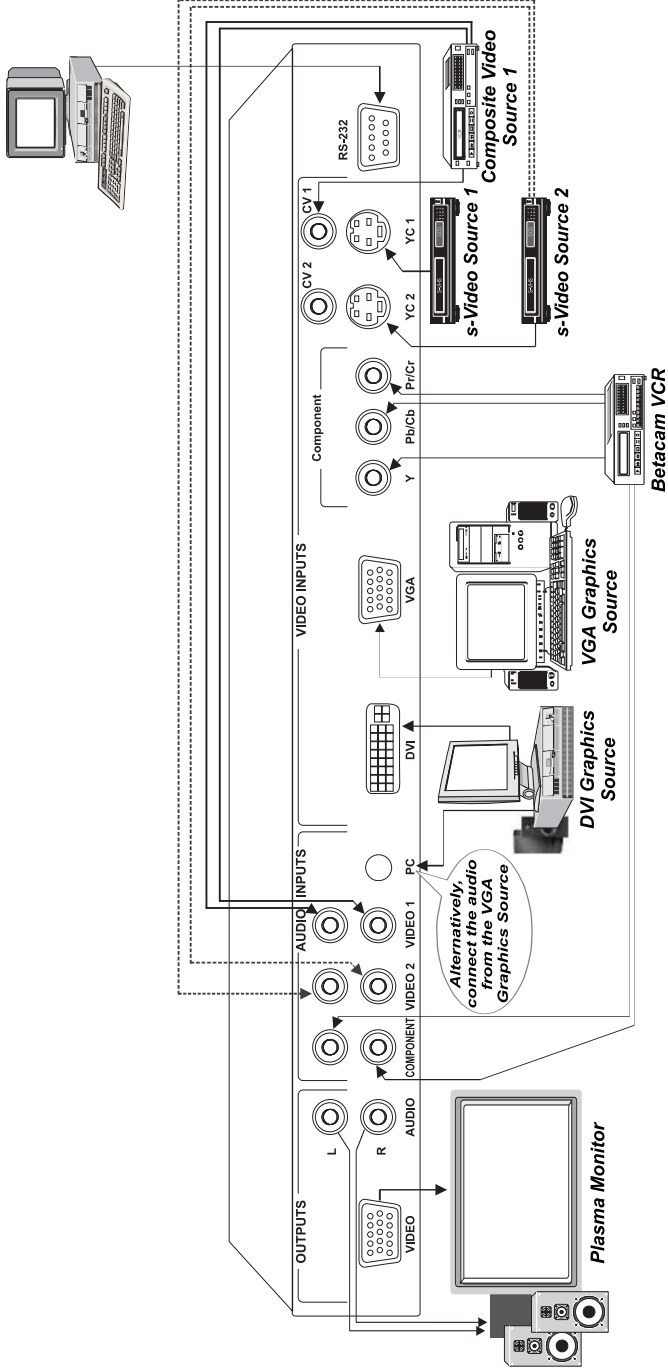

Figure 3: Connecting the YP-720DS / VP-723DS Rear Panel
To connect the **VP-720DS** or **VP-723DS**, connect the following² to the rear panel, as the example in Figure 3 illustrates:
- A component video⁴ source, for example, a Betacam VCR (as illustrated in Figure 3), to the 3 RCA connectors, Y, P_b/C_b, and P_r/C_r⁵
2. Connect the stereo audio sources, as illustrated in Figure 3. In particular:
3 Connection to CV 2 is not shown in the example in Figure 3
5 Alternatively, you can connect an RGB signal (not shown in Figure 3), as follows: RED to the “Y” connector, GREEN to the “Pb/Cb” connector, and BLUE to the “Pr/Cr” connector
6 Alternatively, you can connect a YUV signal to the HD15 connector (not shown in Figure 3), by connecting the “Y” connector to PIN 1, the “Pb/Cb” connector to PIN 2, and the “Pr/Cr” connector to PIN 3
- The audio of the DVI Graphics Source to the AUDIO INPUT PC 3.5mm socket¹. Alternatively, connect the audio from the VGA Graphics Source (not illustrated in Figure 3)
3. Connect the VIDEO OUTPUT HD15F connector² to the video acceptor, for example, a projector or a Plasma monitor (as shown in Figure 3), and connect the AUDIO OUTPUT pair of RCA connectors to the audio acceptor, for example, a power amplifier.
4. The power cord (the power connector is not illustrated in Figure 3).